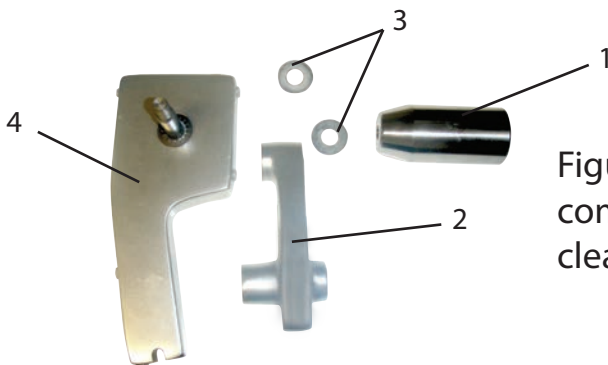

Figure 3
- f. Last Slice Device: Unscrew the knob (Figure 3 [1]) and detach the support (Figure 3 [2]) and gaskets (Figure 3 [3]) from the Last Slice Device (Figure 3 [4]). Set items aside for cleaning.